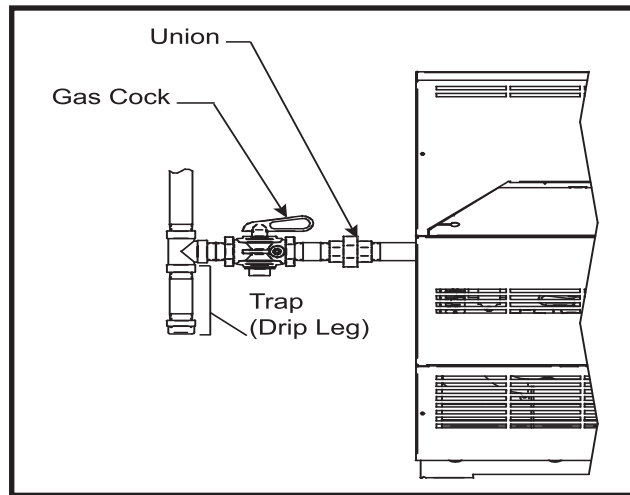

FIG. 16 Gas Line Connection
3. Installation of a union is suggested for ease of service, see Figure 16 on page 14.
5. A trap (drip leg) **MUST** be provided by the installer in the inlet of the gas connection to the appliance, see Figure 16 on page 14.
All gas connections must be made with pipe joint compound resistant to the action of liquefied petroleum and natural gas. All piping must comply with local codes. Tubing installations must comply with approved standards and practices. Reference Figure 16 for a typical installation.